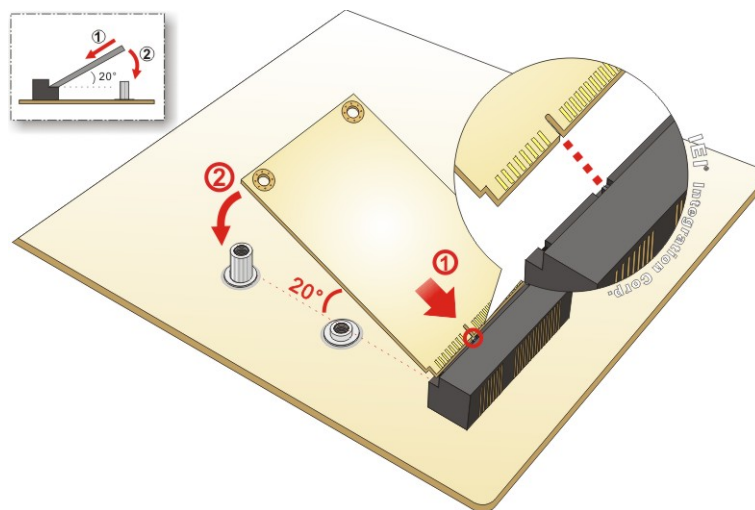

Figure 4-3: Inserting the Full-size mSATA Module into the Slot at an Angle
Step 3: Line up the notch on the mSATA module with the notch on the slot. Slide the mSATA module into the socket at an angle of about 20° (**Figure 4-3**).